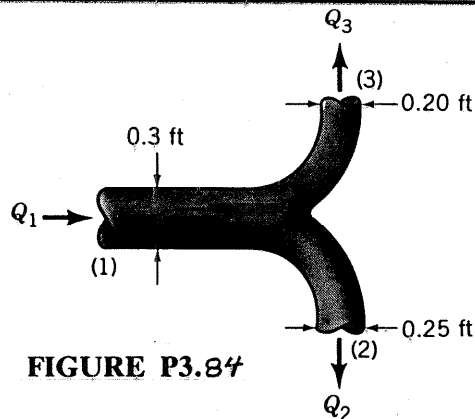

FIGURE P3.84
3.84 Water flows through the horizontal Y-fitting shown in Fig. P3.84. If the flowrate and pressure in pipe (1) are $Q_1 = 2.3 \text{ ft}^3/\text{s}$ and $p_1 = 50 \text{ lb/in.}^2$, determine the pressures, p_2 and p_3 , in pipes (2) and (3) under the assumption that the flowrate divides evenly between pipes (2) and (3).